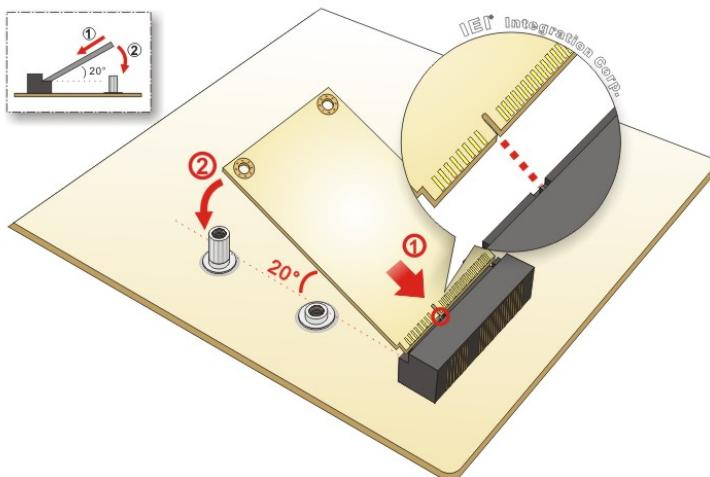

Figure 3-9: Inserting the PCIe Mini Card into the Slot at an Angle
Step 4: Insert into the socket at an angle. Line up the notch on the card with the notch on the slot. Slide the PCIe Mini card into the socket at an angle of about 20° (Figure 3-9).